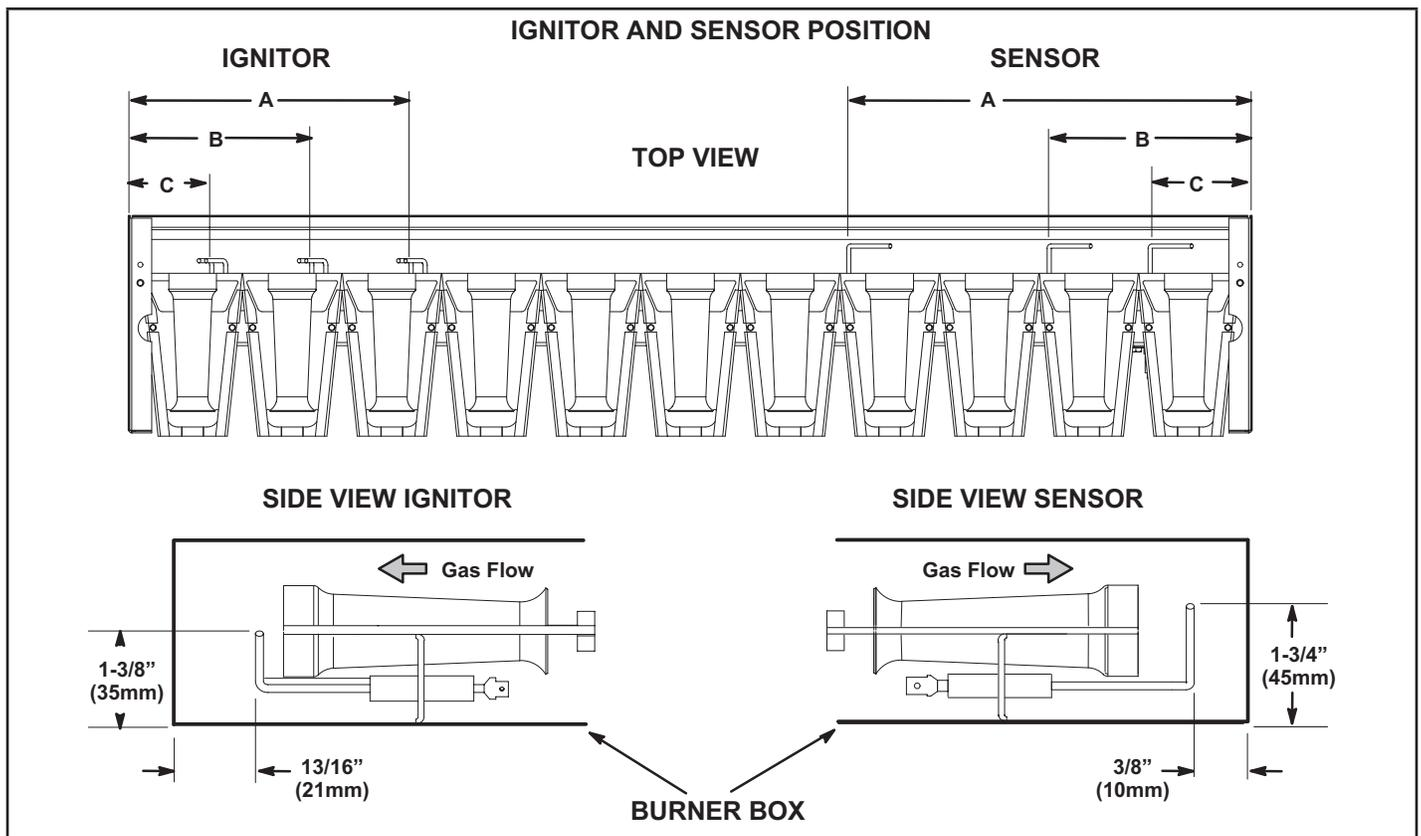

FIGURE 26
- 5 - Check the alignment of the ignitor and the sensor as shown in FIGURE 26.